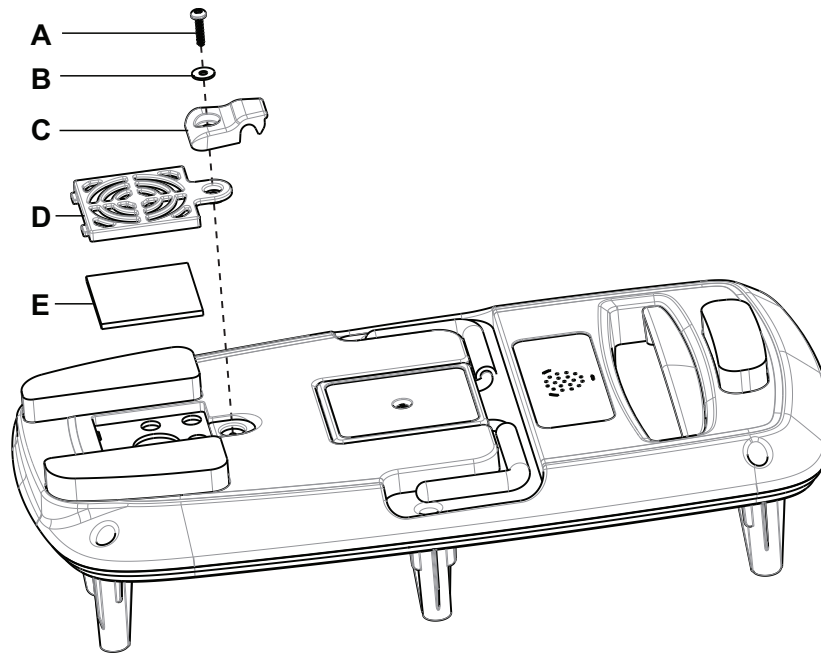

Figure 20 – Air filter
4. Using a T20 Torx driver, remove the screw (A), washer (B), and flex grip (C) that secure the air filter access door (D) to the cover (Figure 20). Save the screw, washer, and flex grip.